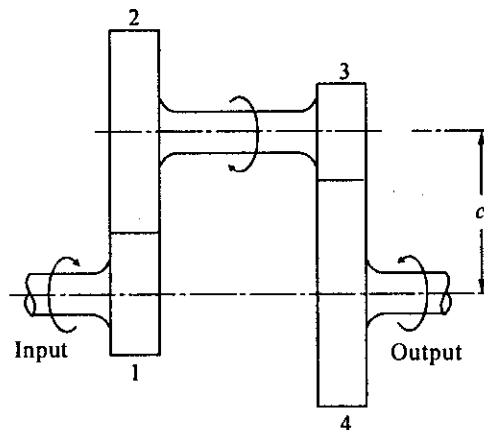

Fig. 7.5
**Reverted gear train :** A reverted gear train is one in which the first and last gears are on the same axis as shown in fig. 7.5. In reverted gear trains, the center distances of the two pairs of gears must be the same. Since the diametral pitch is same for both pairs, therefore
**Solution:** Refer fig. 7.5